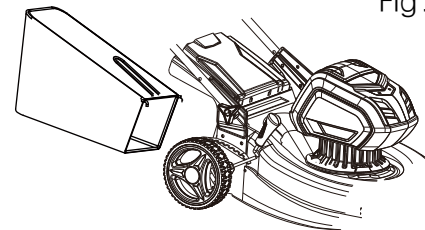

Fig.4
5. Installing the grass catcher bag (See Fig.4)